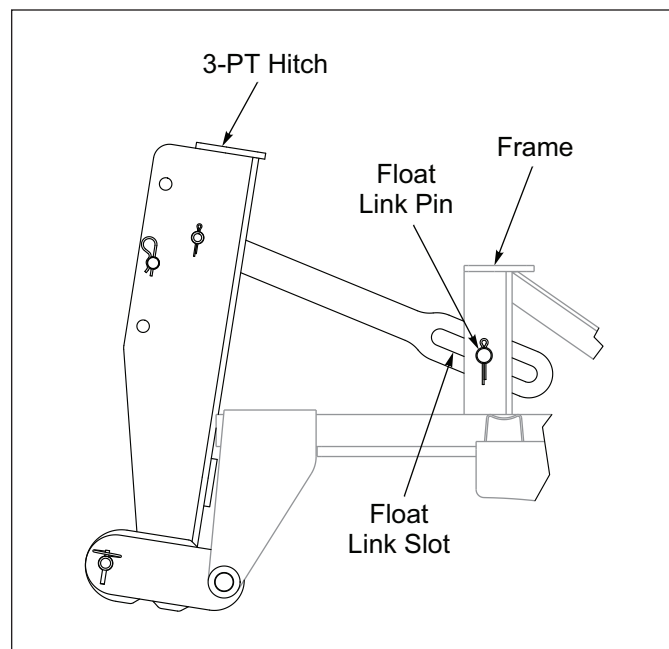
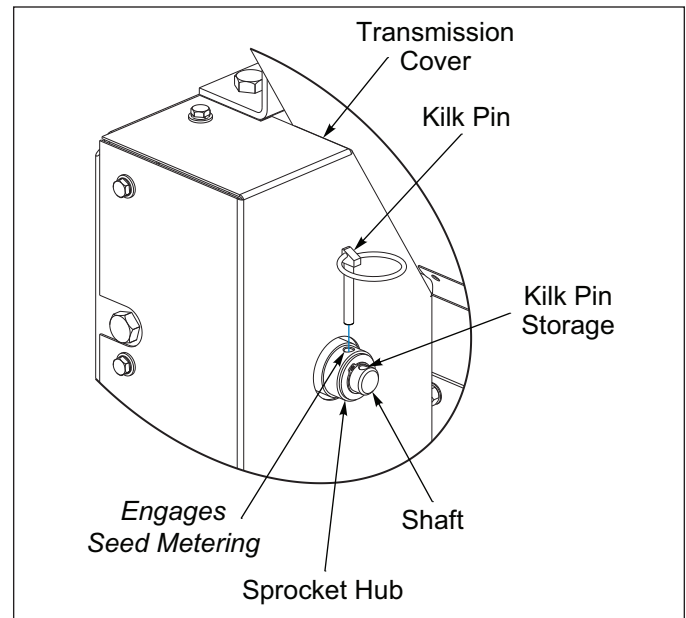

Figure 3-1: Floating Hitch
Figure 3-4: Disengage/Engage Seed Metering System Drive
6. With the Seeder on level surface and attached to the tractor, adjust the tractor 3-PT Hitch Upper Link so that the Float Link Pin is at the center of the Float Link Slot for proper floating during seeding. **See Figure 3-1.**
4. The seed metering system drive can be disengaged by removing the exposed Klik Pin from the Sprocket Hub at the rear of the Seeder and placing it in the end of the shaft for storage. **See Figure 3-4.**
With Seeder attached to tractor, lower on a level surface. Disengage the Seeder Transmission. **See Figure 3-4.** Adjust the tractor 3-PT Hitch Upper Link so that the Float Link Pin is centered in the Float Link Slot. **See Figure 3-1.** The Disc Gangs, S-Tines, and rear Firming Roller are used as a complete tillage tool for seedbed preparation.
Once the seedbed is firm, set the tractor 3-PT Upper Link length to get the desired tillage. Engage the seed metering system drive and proceed with the seeding operation. **See Figure 3-4.** In some cases, it may be necessary to roll the seedbed after seeding to improve seed to soil contact.